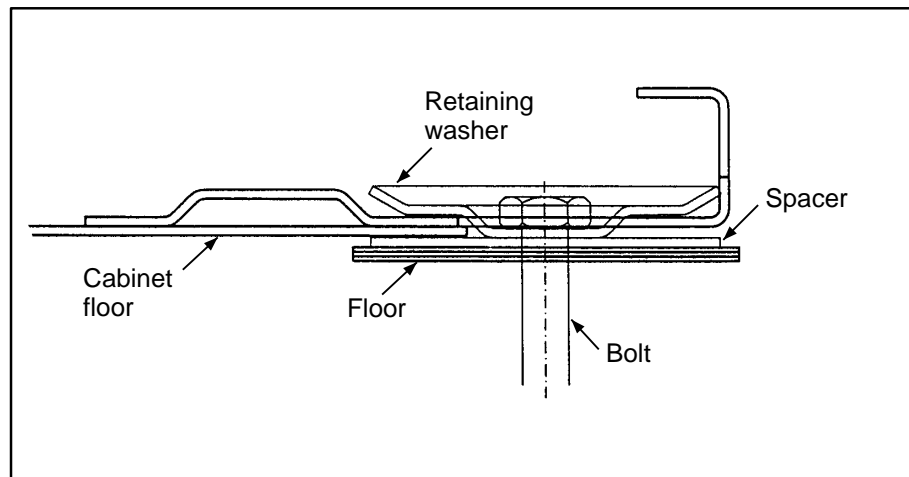

Figure 4 Mounting the spacer and retaining washer to the floor
- In the case of a 3-hole cabinet floor, mount a retaining washer and spacer (included in NTM 201 293/1) in the rear floor hole as shown in figure 4.